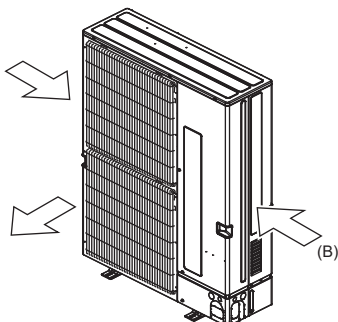

Fig. 2-5
- Position the unit so that the air outlet blows perpendicularly to the seasonal wind direction, if possible. (Fig. 2-5)